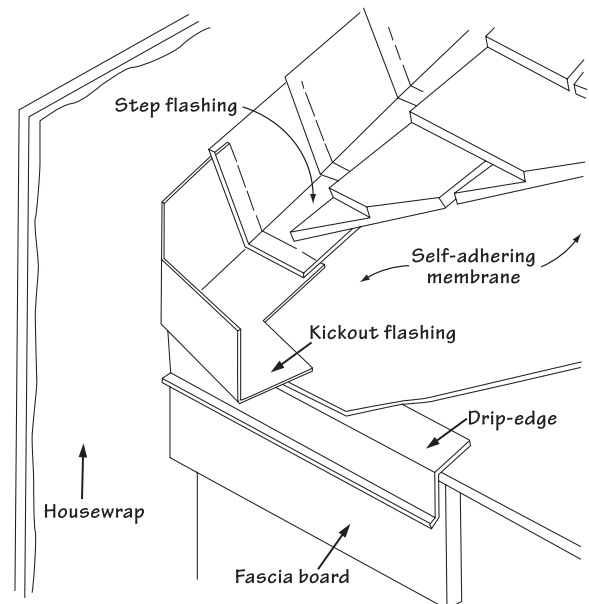

Figure 43.
- As an alternative to the diverter, create a “kickout” from metal flashing, as shown in Fig. 43.
**NOTE:** “Kick-out flashing” (Fig. 43) is an additional flashing strip that extends beyond the edge of the fascia that is required in some cold-climate localities.